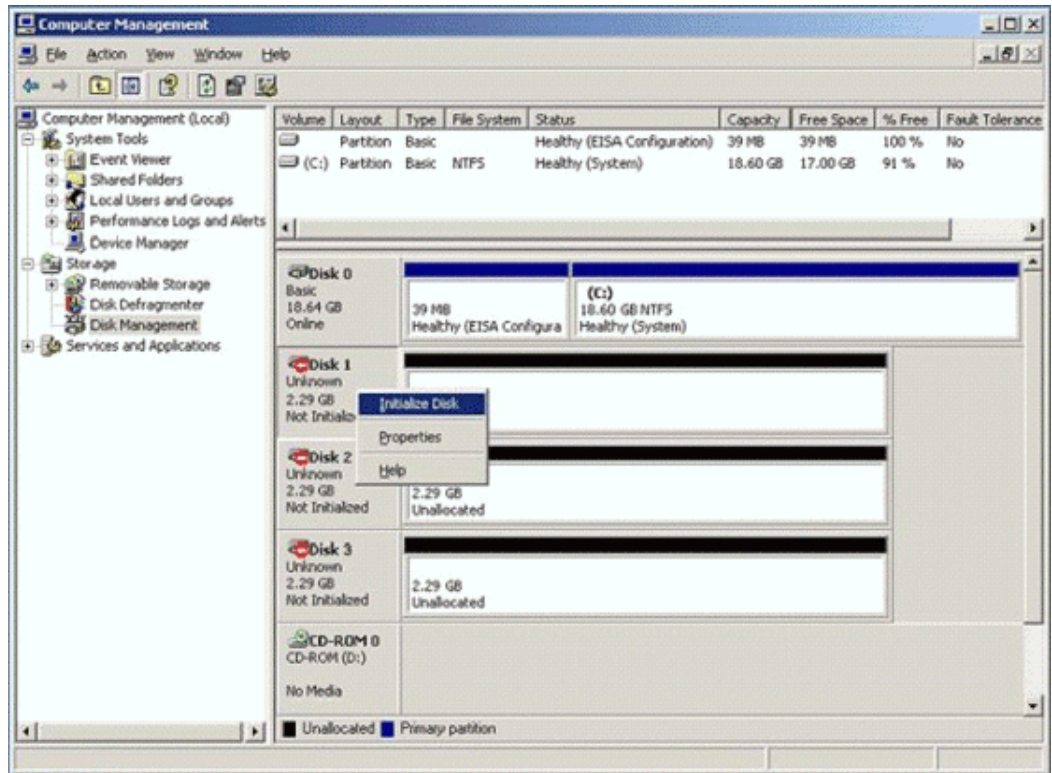

Figure 2-10: Writing the Signatures
3. The Disk Management displays each new device by disk number and asks if you want to write a signature on the disk (Figure 2-10 on page 2-15). You may only write a signature once on each device.